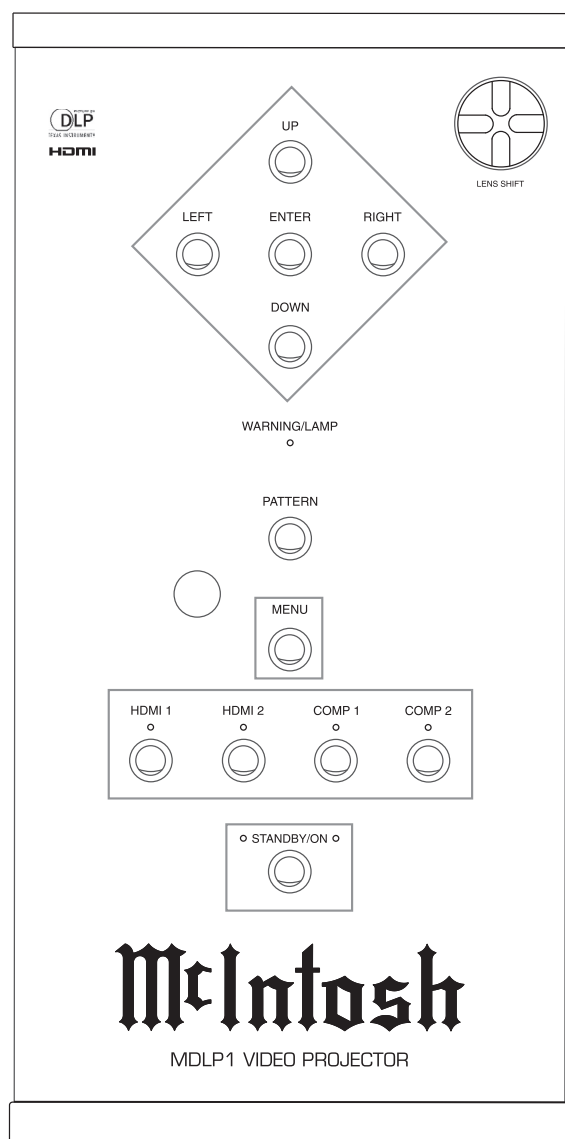

Figure 14
The Red LED to the left of the STANDBY/ON Push-button lights to indicate the MDLP1 is in Standby mode. To Switch ON the MDLP1, press the STANDBY/ON Push-button on the Projector Control Panel or the Projector ON Push-button using the Remote Control. The Green LED to the right of the STANDBY/ON Push-button lights to indicate the MDLP1 is ON. Refer to figures 14 and 15.
The default Source Select for the MDLP1 Projector is the COMPONENT 1 Input. There is an additional Component Video Input (COMP 2) along with two HDMI Inputs. Select the desired source using the push-buttons located on the Projector Control Panel or on the PROJ INPUT Push-buttons located on the Remote Control. Refer to figures 14 and 15.
1. Press the MENU Push-button on either the Projector Control Panel or on the Remote Control. Refer to figures 14 and 15.